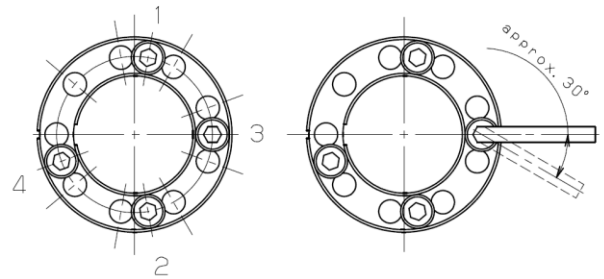

Fig 5 Tightening sequence for removal
2. Apply enough oil or grease to the threads of the locking bolts and the tapped holes for removal in taper ring A. Tighten the locking bolts into all of the tapped holes to remove evenly as in the sequence shown in figure 5. In this procedure, locking bolts pull taper ring A, and push taper ring B to the opposite direction at the same time. Use a torque wrench to tighten the locking bolts to the recommended installation torque. To avoid damage to the bolts, do not tighten at or over torque MA.